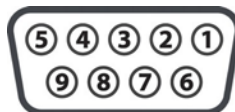

Figure 2-4: Port A/Port B Pinout
- The serial ports operate at the RS-232 interface level to communicate with external data loggers, navigation systems, and other devices. Either serial port can also be used for firmware updates. Figure 2-4 illustrates the numbering for the female DB9 port (the numbering for each male connector is a mirror reflection of Figure 2-4) and Table 2-1 provides the pin configuration for the serial ports.